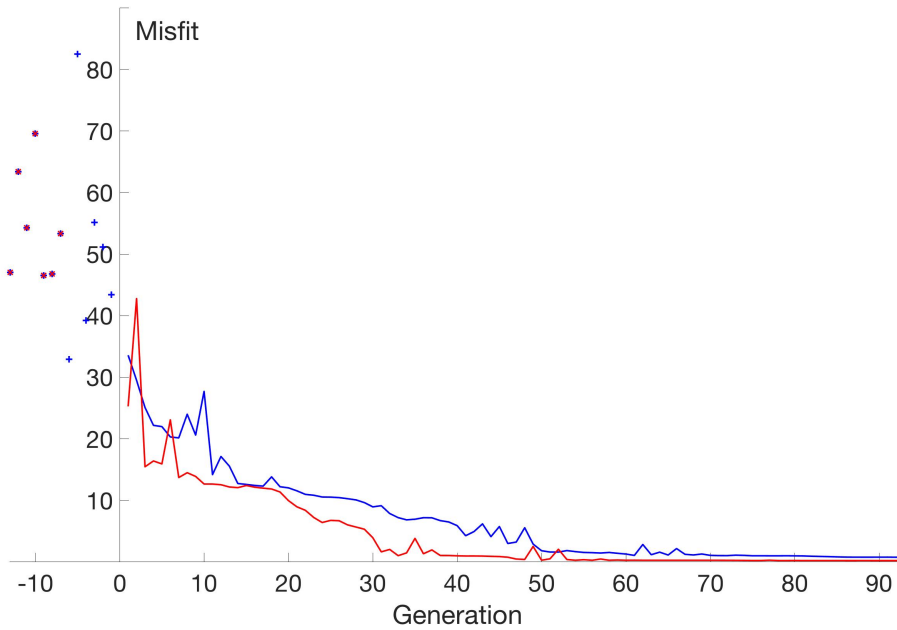
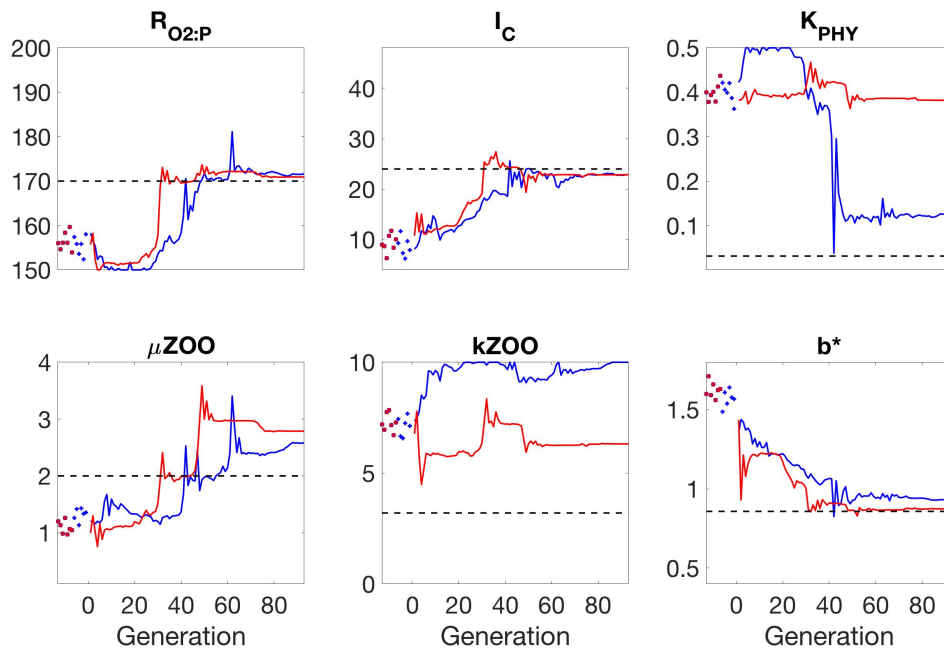

Figure 6: Minimising the misfit with DFOLS and BOBYQA, created by plotCompare.m.
Figure 7: Tuning 6 parameters by DFOLS and BOBYQA, created by plotCompare.m (similar to plot created by plotParamTraject.m).
— plotCompare.m	Create 2 plots. (1) Plot on top of each other the total misfit values throughout the optimisation by different optimisers. See example in Figure 6. (2) Plot on top of each other the parameter values throughout the optimisation by different optimisers. See example in Figure 7.